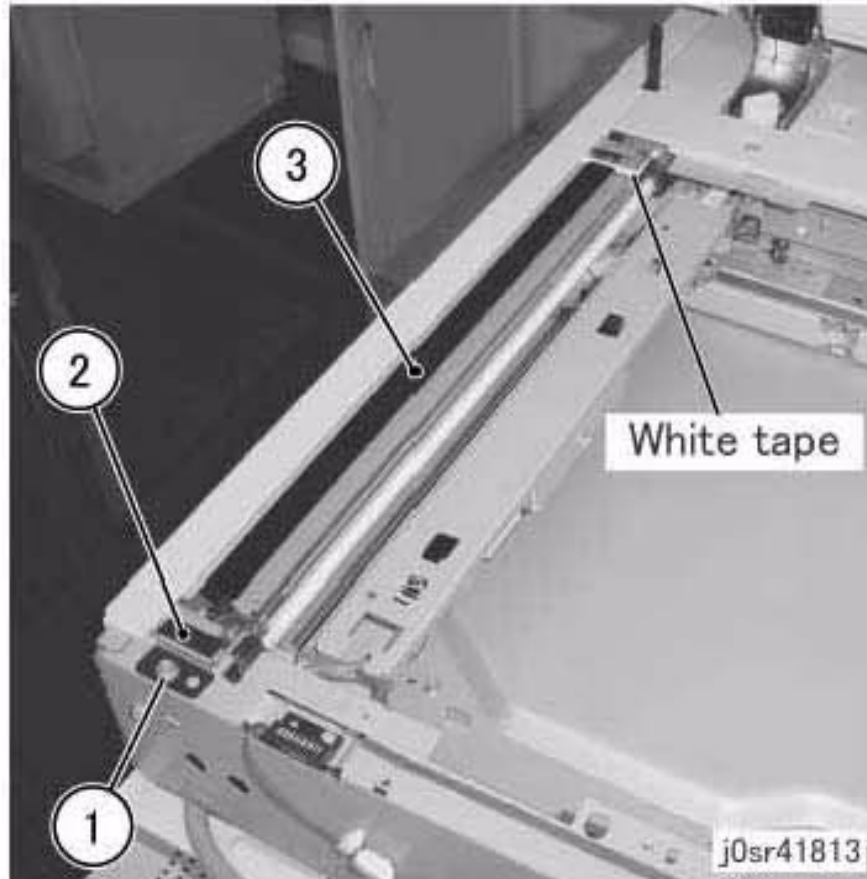

Figure 2 Removing the Left Side Platen
3. Remove the DADF Platen Glass. (Figure 2)